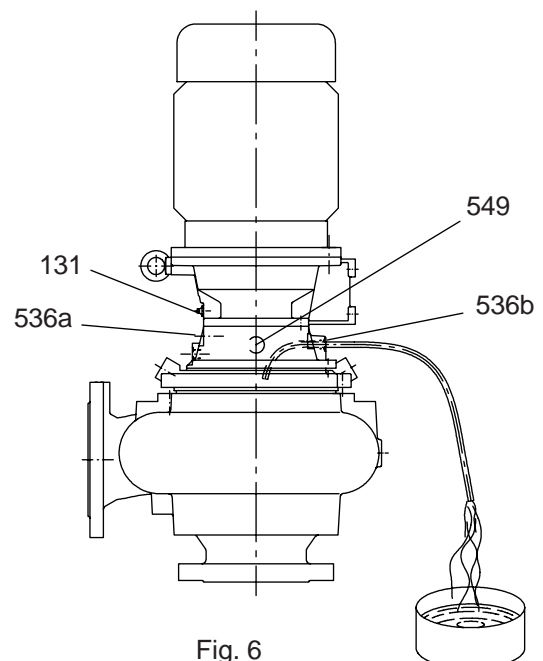

Fig. 6
2.6.5.2 FOR VERTICAL MOUNTED PUMPS (Fig. 6)